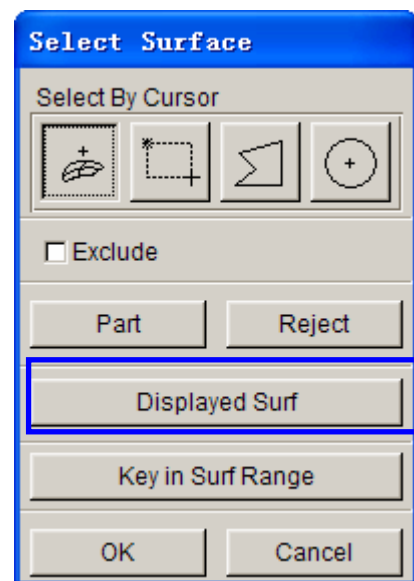

Figure 29: Select surface dialog box
6. From the **Select Surface** dialog shown in Figure 29, choose the **Displayed Surf** icon.